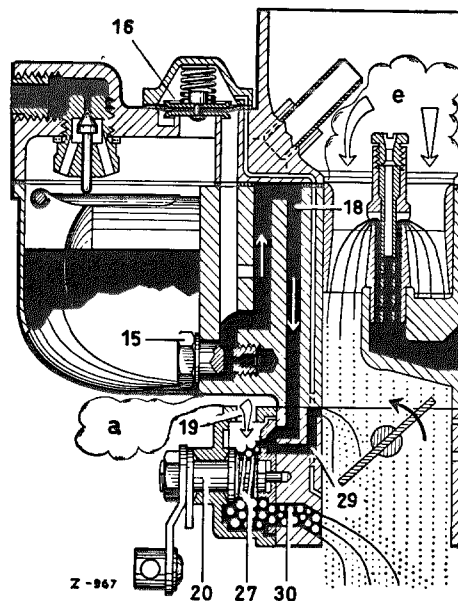

Fig. 07-0/16
If as a result of quick acceleration from low engine speed the throttle valves are opened still further, the partial vacuum suddenly drops. The starter air valve (16), which had opened as soon as the engine started, now closes again, so that the starter system produces a rich start mixture for the change-over just as it did at starting. As soon as the engine reaches sufficient speed, the starter air valve, actuated by the partial vacuum which is increasing again, once more opens and leans out the start mixture. By this automatic action of the starter air valve the cold engine is supplied with a correctly proportioned start mixture suitable for all conditions and a satisfactory change-over to the main carburetion system is ensured when the starter knob is pulled. Fig. 07-0/16 shows the mode of action of the starter mechanism when the car is being driven away.